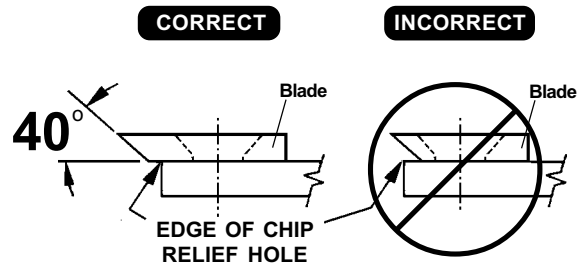

Fig. 5
12. Sharpen blade by lightly grinding the cutting edge of the blade at **40 degrees** (see fig. 5). It is not necessary to remove all nicks from the cutting edge. **CAUTION:** Be careful to avoid heat buildup in the blade during sharpening. This will reduce its heat-treated hardness properties and will reduce blade life. Evidence of too much heat build-up is a change of color along sharpened edge.
13. The same chipper blade can be sharpened several times. However, blade replacement is required when blade no longer overhangs the chip relief hole in impeller back plate or if increased vibration occurs (see fig. 5).